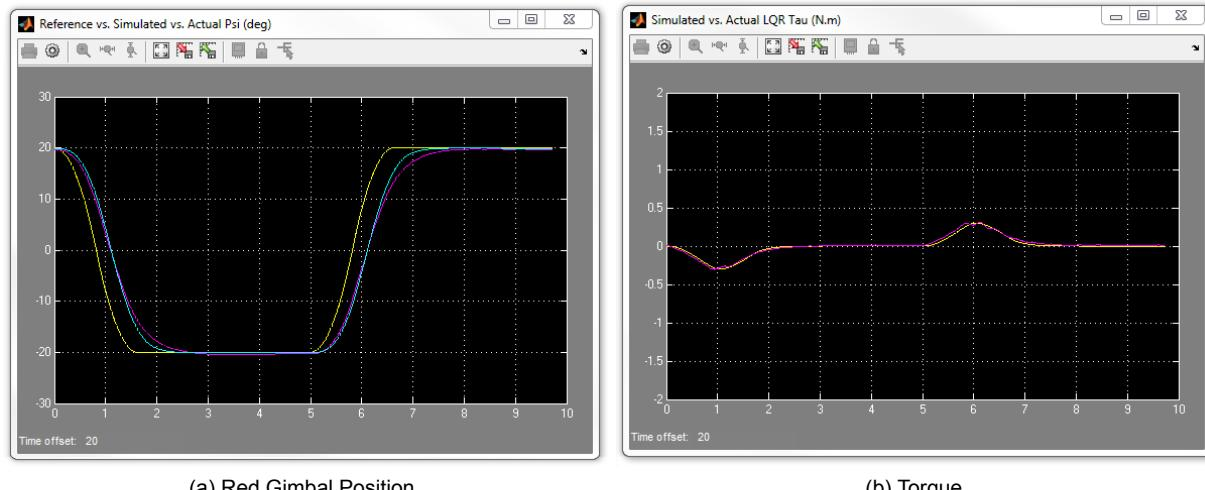

Figure 3.6: Typical response when running control on 3 DOF Gyroscope system
9. The red gimbal should now be going back and forth between the commanded positions at the frequency specified. Examine the position of the red gimbal in the *Reference vs. Simulated vs. Actual Psi (deg)* scope. You can also view the commanded motor torque in the *Simulated vs. Actual LQR Tau (N.m)* scope. The scopes should be displaying responses similar to Figure 3.6.